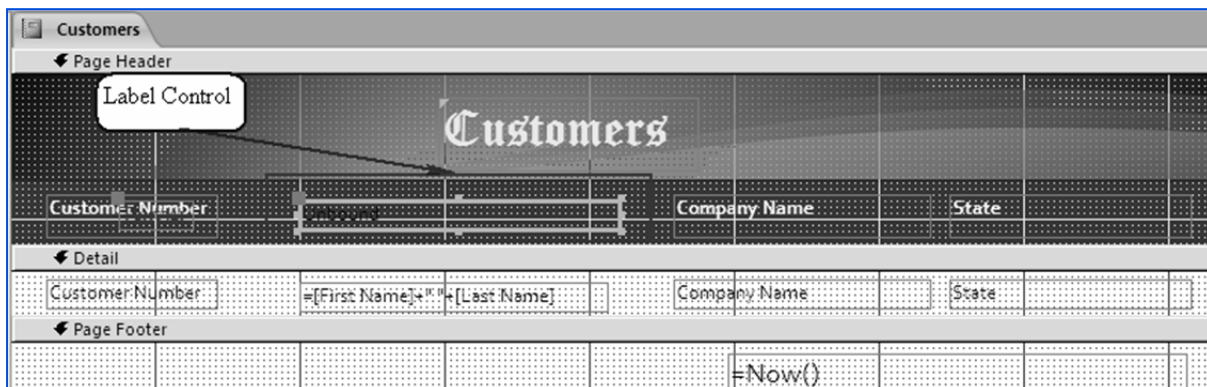

Fig. 2.4.11. Add Label Control to Page Header
5. Add a label control **Aa** from *Design ribbon -> Controls* tab in the Page Header tab along with other headings. The Report should appear, as in Fig. 2.4.11.